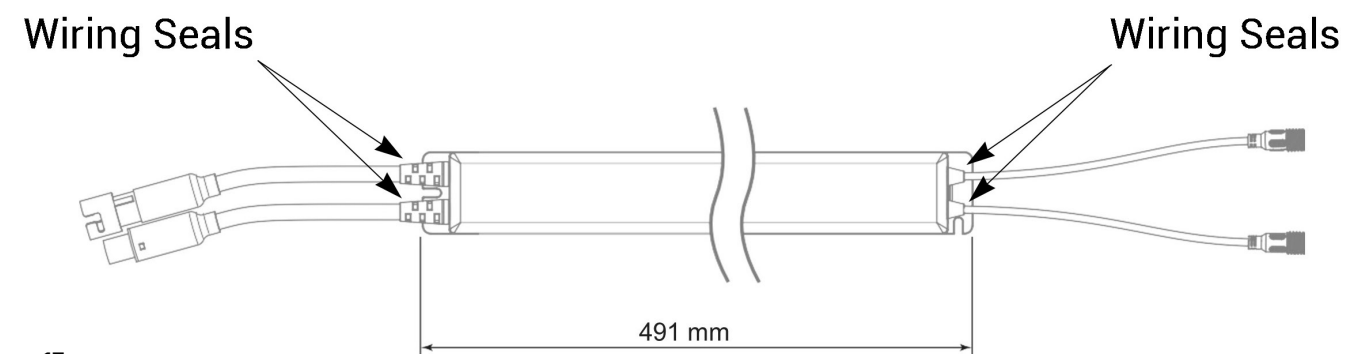

Figure 17
**DO NOT ATTEMPT TO DISTURB OR REMOVE THE WATERPROOF WIRING SEALS ON THE OUTSIDE OF THE RECEIVER BOX. SEE FIGURE 17.**